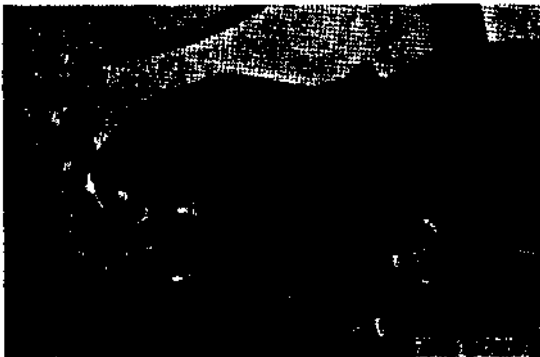

Figure 245. Removing shift air cylinder control valve assembly from shifter housing
- (1) Remove four cap screws securing shift air cylinder control valve assembly (fig. 245) to transmission shifter housing and lift off the valve assembly.